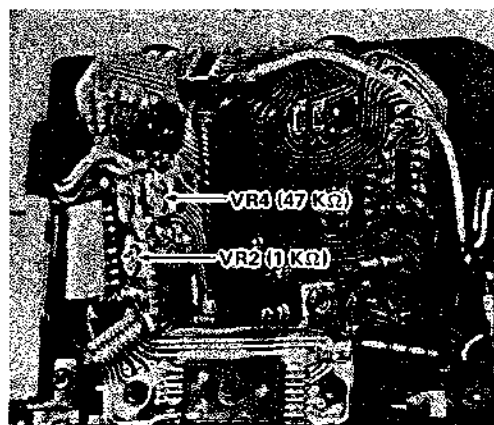

Fig. VI-4
Adjust the potentiometer VR2 so that the reading becomes shutter speed 1/125 sec. See Fig. VI-4.
b. F/16 setting, adjust the potentiometer VR4 so that the reading becomes shutter speed 1/2 sec. See Fig. VI-4.